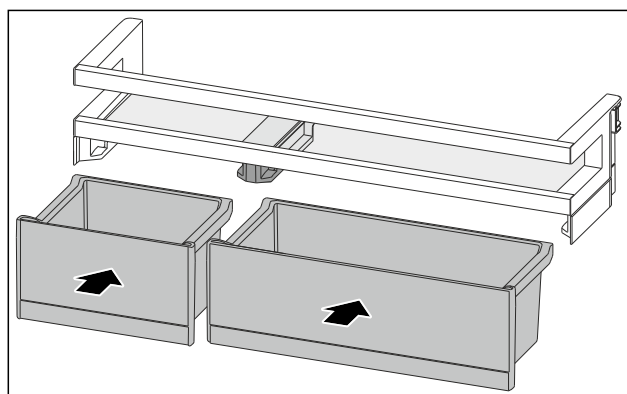

Fig. 95
- ▶ Insert the VarioBoxes in reverse order. (see Fig. 95)